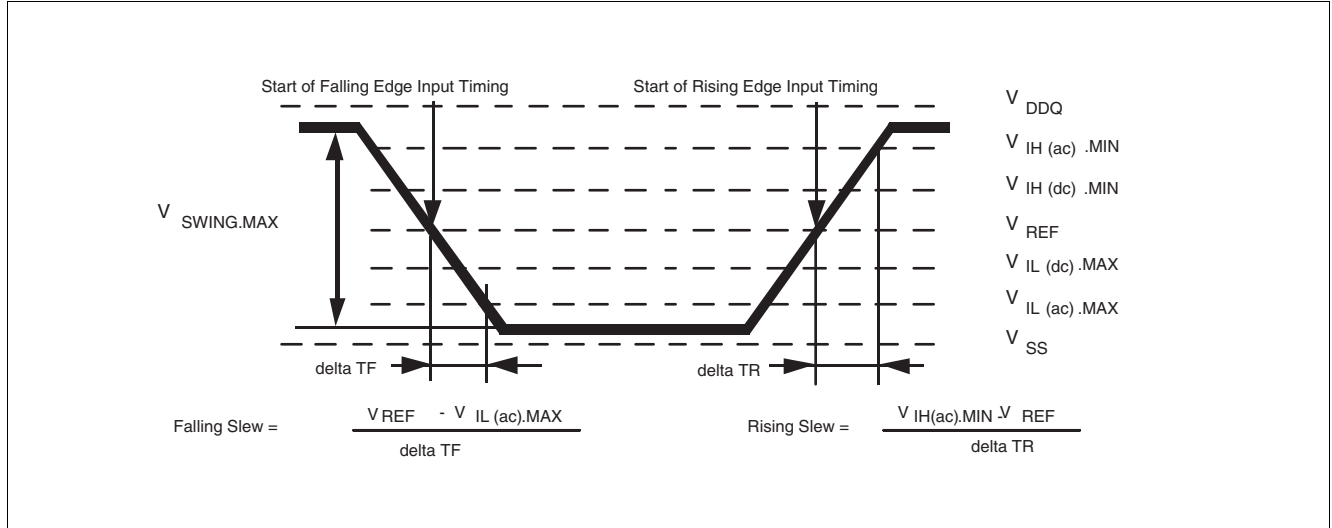

Figure 57 Single-ended AC Input Test Conditions Diagram
2) The input signal minimum slew rate is to be maintained over the range from  $V_{IH(AC)min}$  to  $V_{REF}$  for rising edges and the range from  $V_{REF}$  to  $V_{IL(AC)max}$  for falling edges as shown in Figure 57.